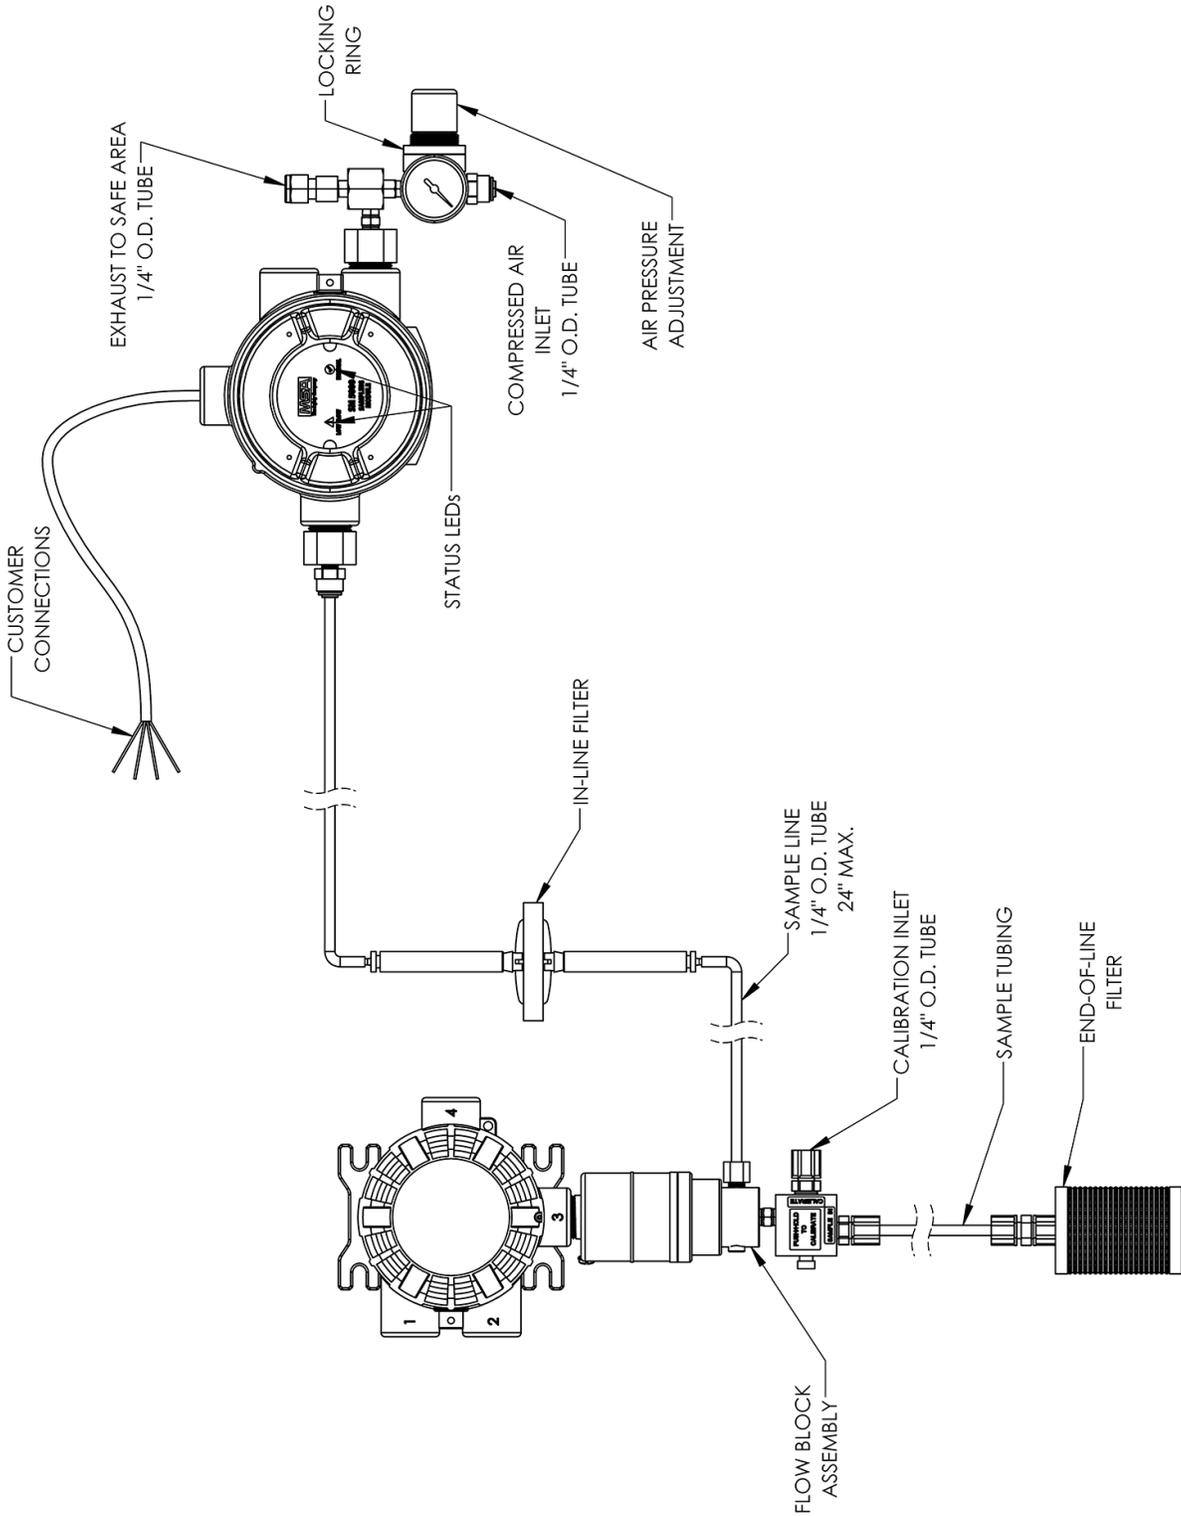
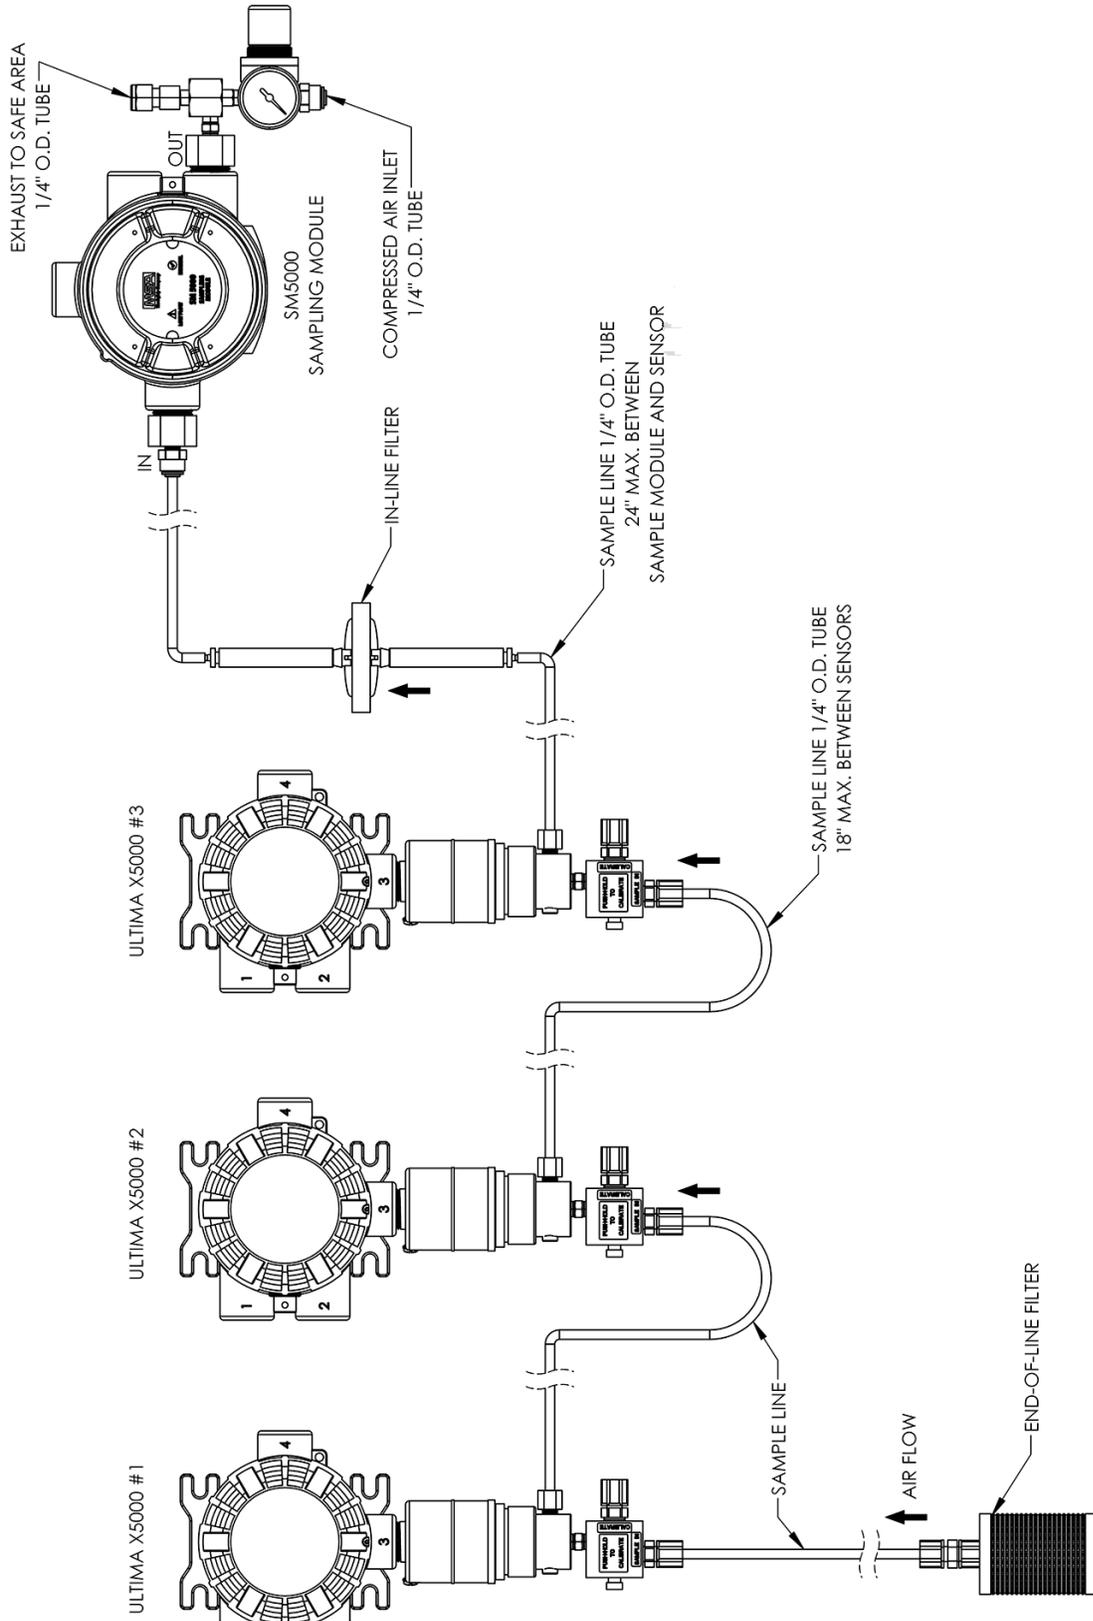

Fig. 1 Sampling module installation
Fig. 3 Three Ultima X5000 Gas Monitors and a Sampling Module
A properly-installed unit for a single Gas Monitor is shown in Fig. 1. It is also possible for one Aspirated Sampling Module to supply sample gas for up to three Gas Monitors. This procedure:
- (2) Mount the Aspirated Sampling Module and Gas Monitor to a wall:
- (3) Mount Gas Monitor sensor inlet facing downward.
- (4) Mount Aspirated Sampling Module exhaust tubing so that the end of the tubing is facing downward and is the lowest point of the tubing (see Fig. 1).
- (3) Locate the Aspirated Sampling Module flow block. Install the flow block(s) on the Gas Monitor(s) where the red plastic sensor cap was removed in the previous step (see Fig. 1 and Fig. 3).
- (4) Attach the supplied tubing to the Aspirated Sampling Module port labeled "TO ULTIMA".
- (5) Attach the other end of the supplied tubing to the side of the flow block (see Fig. 1).
If installing additional Gas Monitors, install tubing between units as shown in Fig. 3.
- f) Connect the conductors to the wiring terminal strip noting the identity of the wires (see Fig. 3 and Tab. 4).
- (1) Check wiring connections (see Fig. 3 and Tab. 4).
- (2) Ensure that power supplied to the controlling instrument is the proper voltage with sufficient current capacity to operate the instrument. Refer to the instrument instruction manual for proper power set-up.
- (3) Apply power to the instrument through a remote circuit breaker.